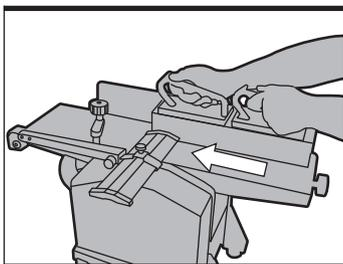

Fig 21
1.5. Planing mode: Making a pass with the workpiece. (See Fig 21)